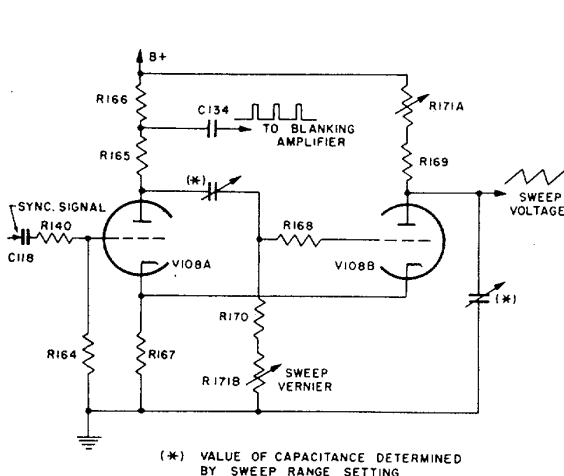

Figure 2-2. Sweep Generator, Simplified Schematic
e. SWEEP GENERATOR.-The sawtooth sweep voltage waveform is generated by V-108A and its associated circuit, shown in the partial schematic diagram, figure 2-2. This is a conventional cathode-coupled multi-vibrator circuit, with the synchronization signal applied at the grid of V-108A, and the sweep sawtooth voltage appearing at the plate of V-108B.